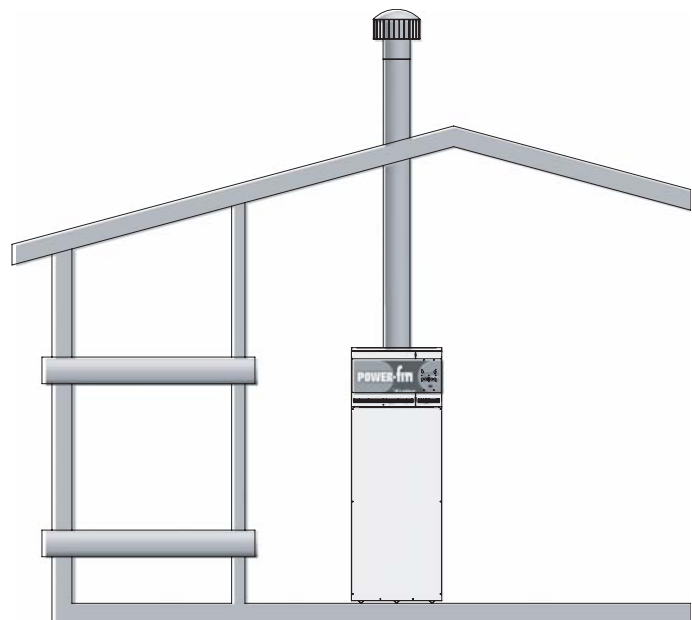

Figure 1-3_Combustion Air Through Ducts
- If combustion and ventilation air is taken from the outdoors using a duct to deliver the air to the equipment room, each of the two openings should be sized based on a minimum free area of one square inch per 2000 Btu/hr (11 cm² per kW) of input (see FIG. 1-3).